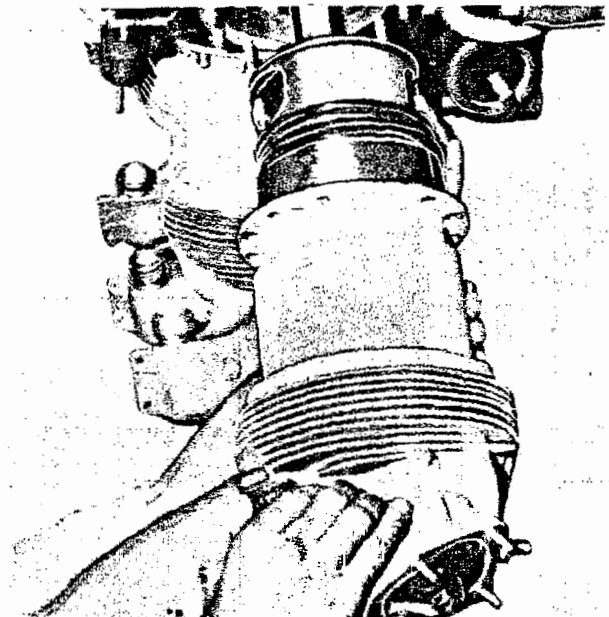

Figure 7-60. Removing Cylinder
b. Remove the cylinder [Figure 7-60] being careful that the piston pin does not fall out. Remove the piston pin, if necessary use PWA-4251-10 Pusher, and lift off the piston. Place the cylinder in an appropriate carrier to prevent damage to the fins and the bottom edge of the barrel.